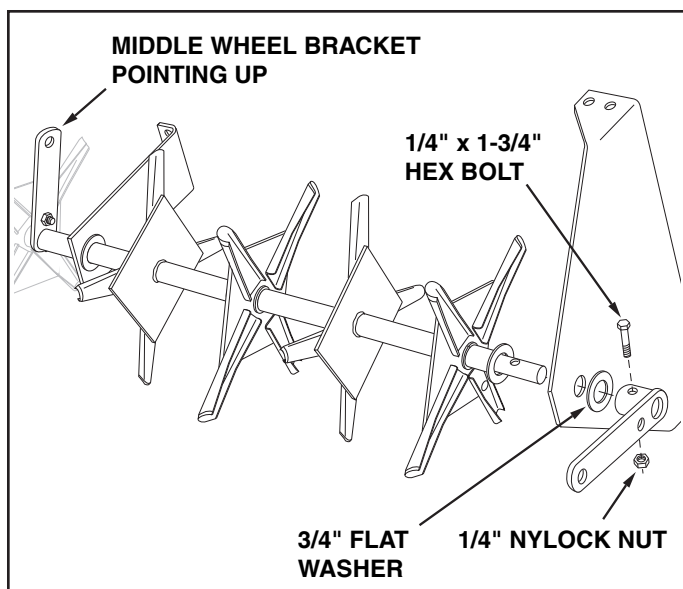

FIGURE 5
7. Rotate the wheel bracket fastened to the middle of the shaft so that it is pointing upward. Assemble an end plate, a 3/4" flat washer and a second wheel bracket onto the **long end** of the shaft. Point this wheel bracket as shown in figure 5. Secure it to the shaft using a 1/4" x 1-3/4" hex bolt and 1/4" nylock nut. **Tighten**. Repeat on short end of shaft.